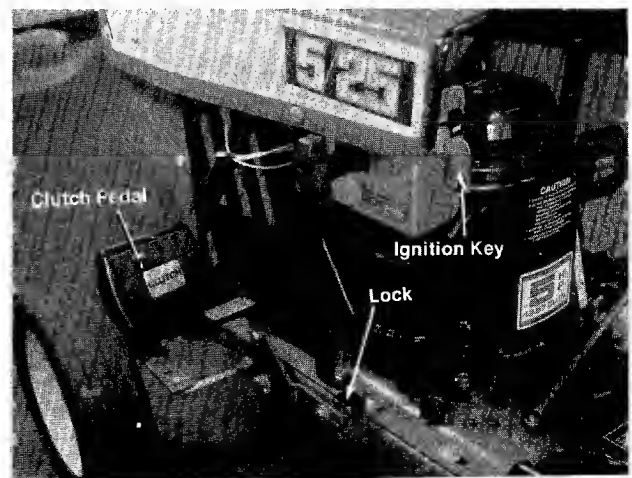

FIGURE 13.
- F. The Clutch Pedal is operated with your left foot. The Clutch Pedal, when depressed, disengages the engine from the transmission so you can stop the movement of the rider mower to shift gears. The Clutch Pedal can be locked in the DISENGAGED position by depressing the Clutch Pedal and lifting the clutch lock with your left hand. To release the Clutch Pedal, depress it with your foot. See figure 13.